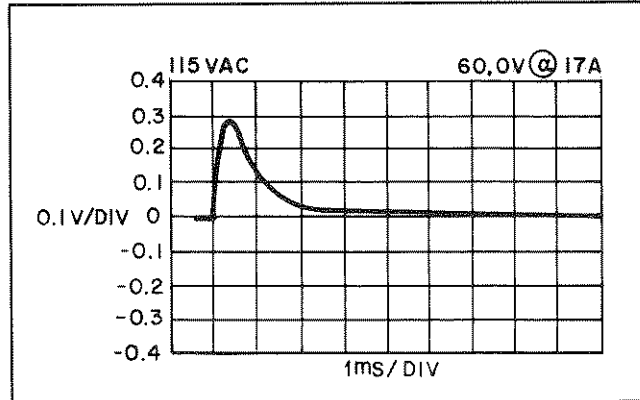

Figure 5-6. Load Transient Recovery Waveform
- Adjust the oscilloscope to display transients as in Figure 5-6.